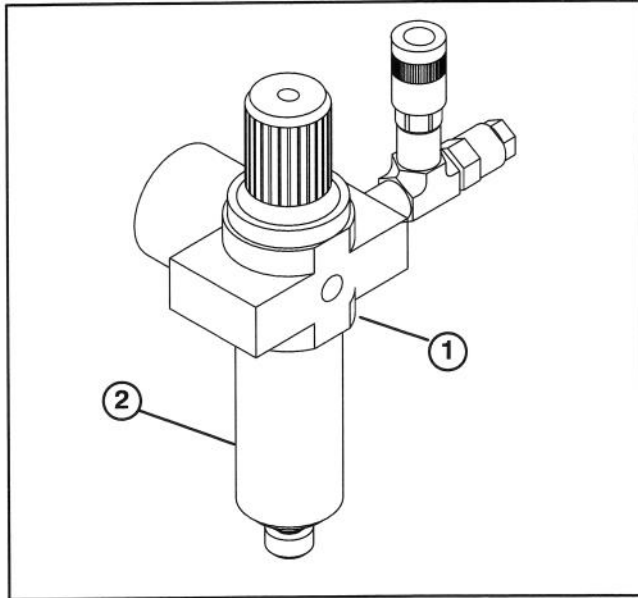

Figure 11
3. Unscrew bowl counterclockwise from regulator (Fig. 11).